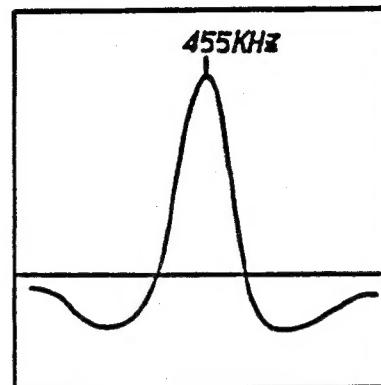

Fig. 1
3. Align the coil L106 until the peak of the wave indicates 455kHz Marker in the MW IF generator scope. (Refer to Fig.1)